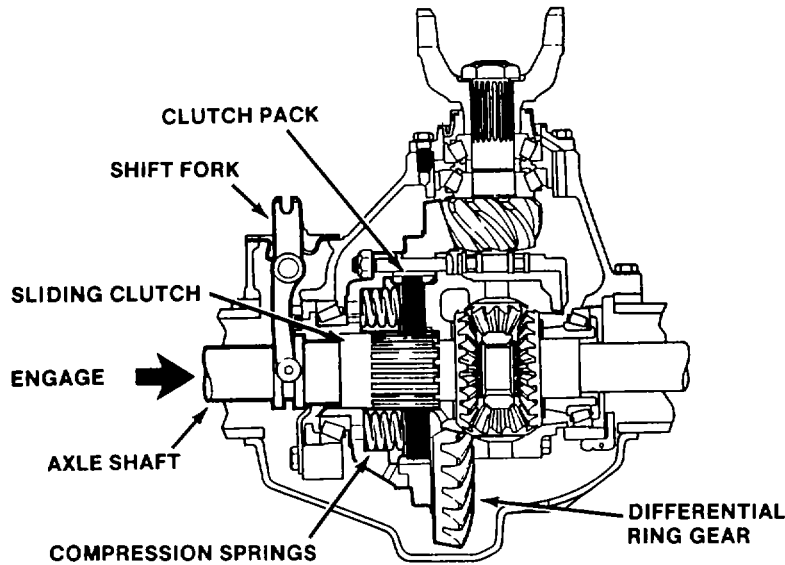

Figure 1-26. Controlled Traction Differential Clutch
b. Controlled Traction Differential. The front and rear axles are both provided with Controlled Traction Differentials (differential locks). The differential locks, (see fig. 1-26) incorporate a friction plate assembly (clutch) which is under constant spring pressure. When engaged, the differential lock prevents one wheel from slipping in relation to the other on the same axle. When disengaged, conventional differential action for normal road conditions is restored. When engaged, the differential lock will slip sufficiently for the vehicle to negotiate turns in a normal manner.